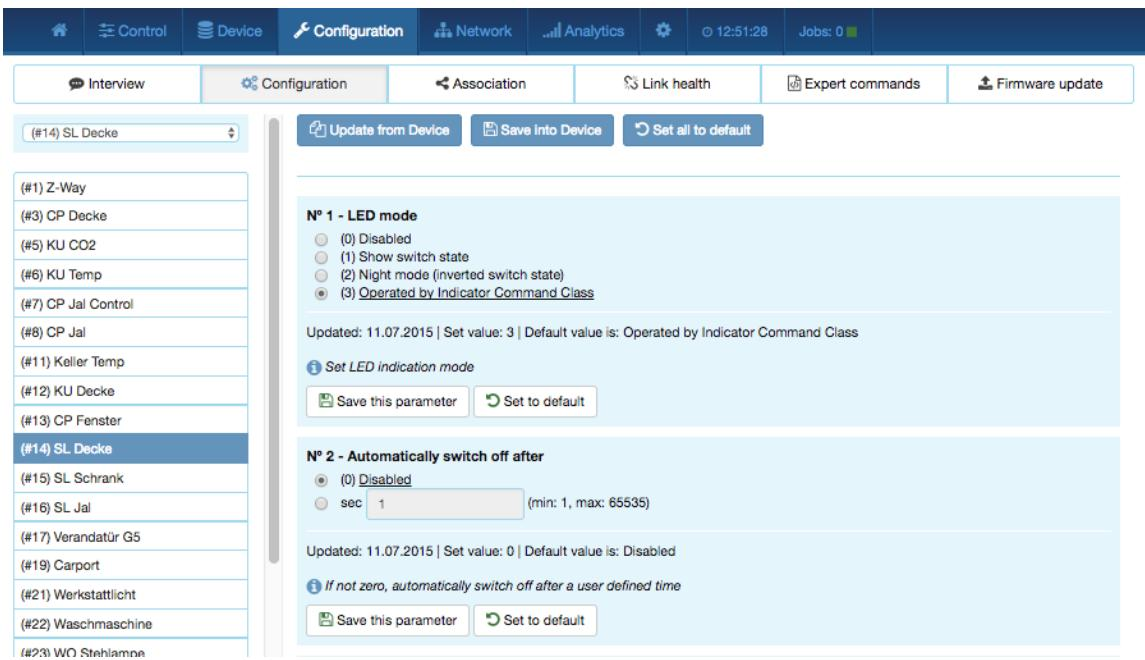

Figure 7.13: Configuration - convenient view
**Configuration** **Configuration** shown in Figure 7.13 allows configuring the device. If the specific device was recognized correctly the different configuration values are translated into human-readable dialogs. Every configuration comes with standard dialog options: